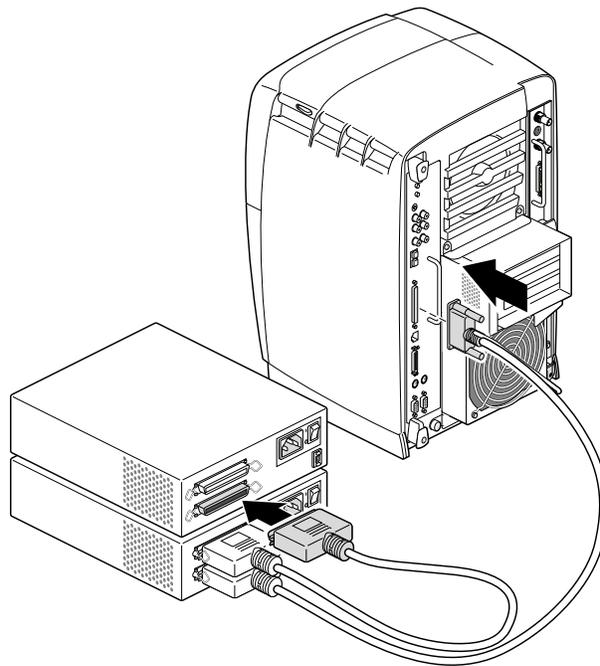

Figure 6-7 Daisy-Chaining an External SCSI Device to Another External SCSI Device
- Connect one end of the SCSI cable to the open connector on the first SCSI device, as shown in Figure 6-7.